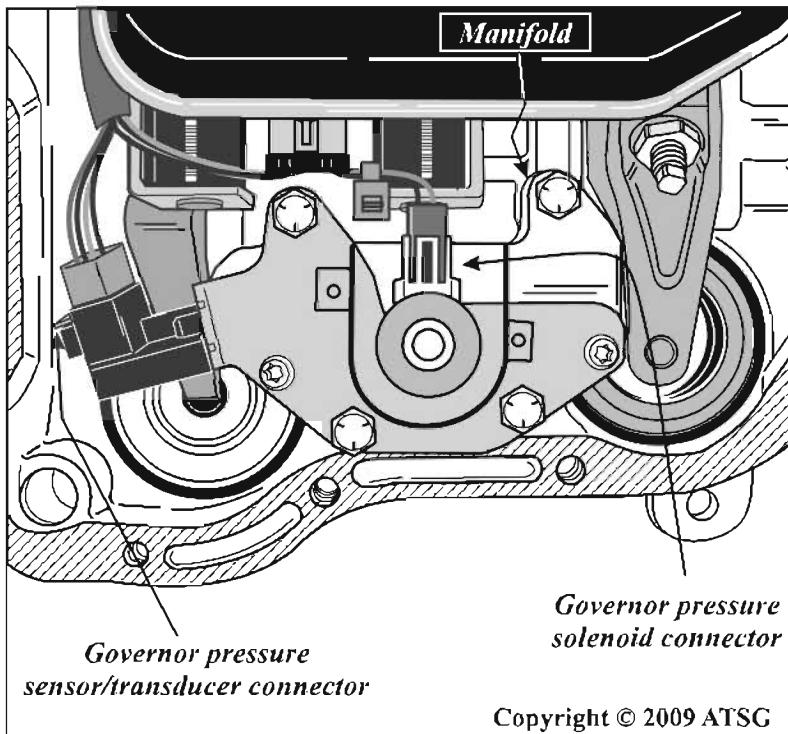

Figure 2
*Refer to figure 2 for a view of the previous design Governor Solenoid and it's components.*